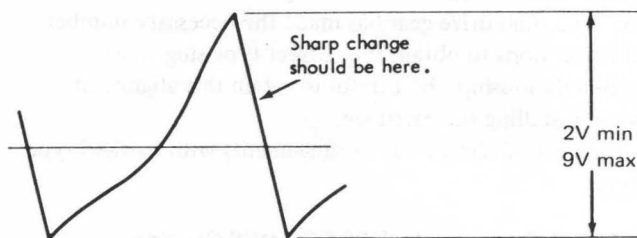

Figure 4-83. UCS/PCS/MCS Transducer Waveform
- c. With the pointer continuously rotating, the waveform must appear as shown in Figure 4-83 with an output of 2 to 9V peak to peak.
3. If the observed waveform appears as shown in Figure 4-83, reconnect the transducer lead that was connected to the scope probe to terminal 8, and the lead that was connected to the scope ground to terminal 9. If, however, the waveform has a rapid rise in the positive direction, and a slow drop in the negative direction, reverse the leads when reconnecting them to the terminal block.